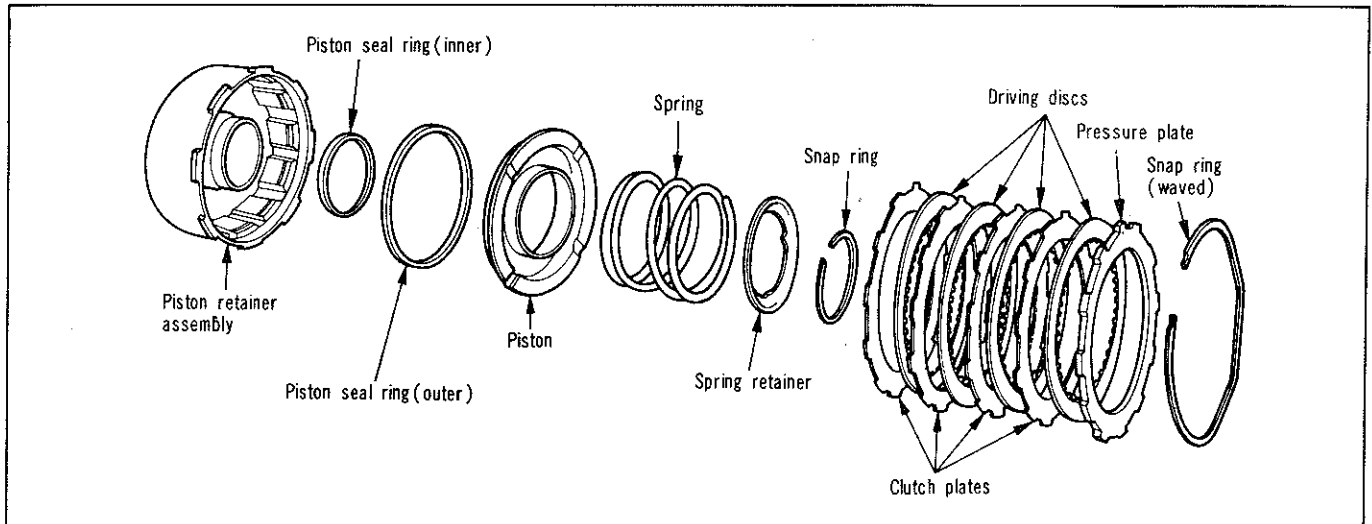

Fig. 48—Front clutch disassembled
Figure 48 shows a disassembled view of the front clutch assembly.
(1) Lubricate and install inner seal ring on hub of clutch retainer. Make sure lip of seal faces down and is properly seated in the groove (Fig. 48).
(2) Lubricate and install outer seal ring on clutch piston, with lip of seal toward bottom of clutch retainer. Place piston assembly in retainer and, with a twisting motion, seat piston in bottom of retainer.